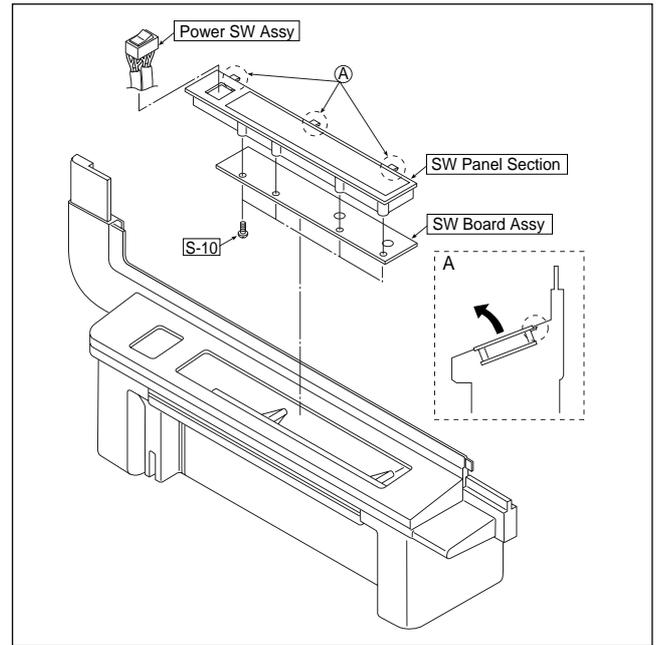

Fig. 11
10) Remove the SW Board Assy. (See Figure 11.)
1. Push the hook of the SW Panel Section as shown in the enlarged picture in portion A of Figure 11, and slide it in the direction indicated by the arrow and remove it.
2. Remove the "S-10" screws as shown in Figure 11 and remove the SW Board Assy. (Tightening torque :  $6 \pm 1.8 \text{kgfcm}$ )